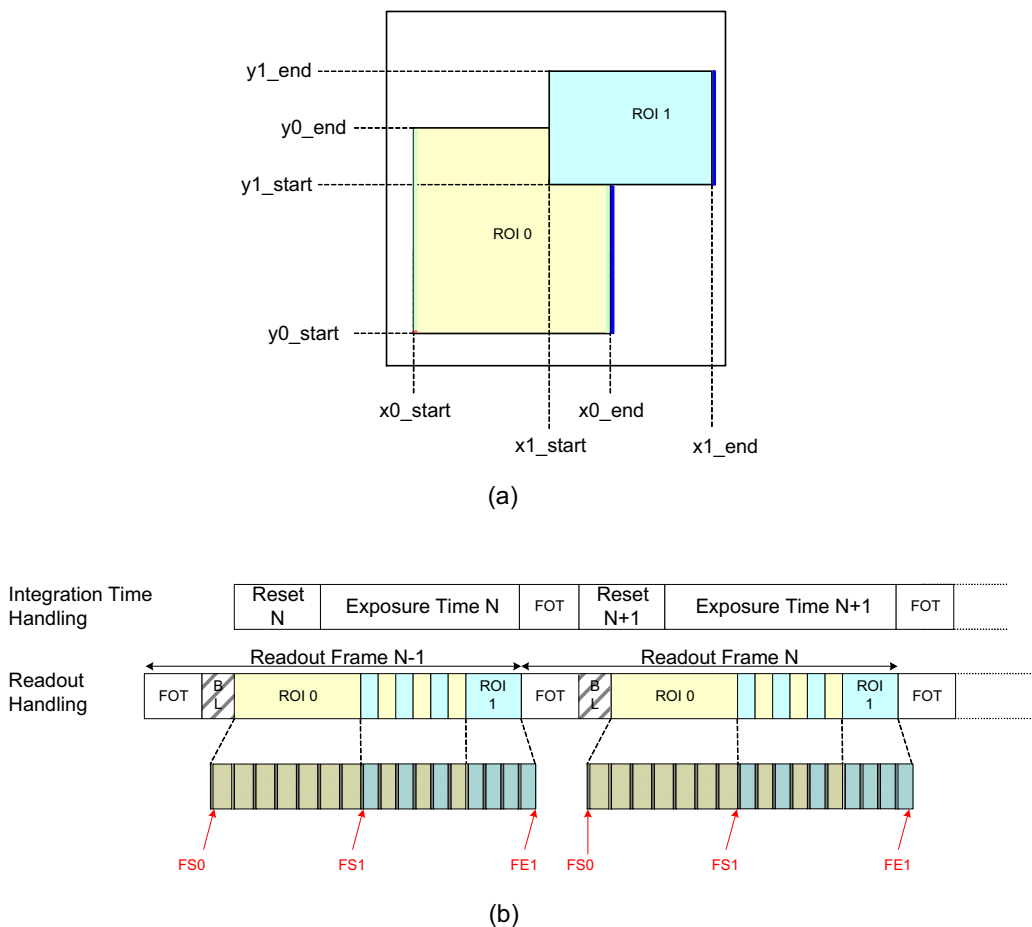

Figure 30. LVDS Mode: Frame Sync Codes
The frame format is explained by example of the readout of two (overlapping) windows as shown in Figure 30(a).
Figure 30 indicates that, after the FOT is completed, the sensor reads out a number of black lines for black calibration purposes. After these black lines, the windows are processed. First a number of lines which only includes
**NOTE:** In Figure 30, only Frame Start and Frame End Sync words are indicated in (b). CRC codes are also omitted from the figure.